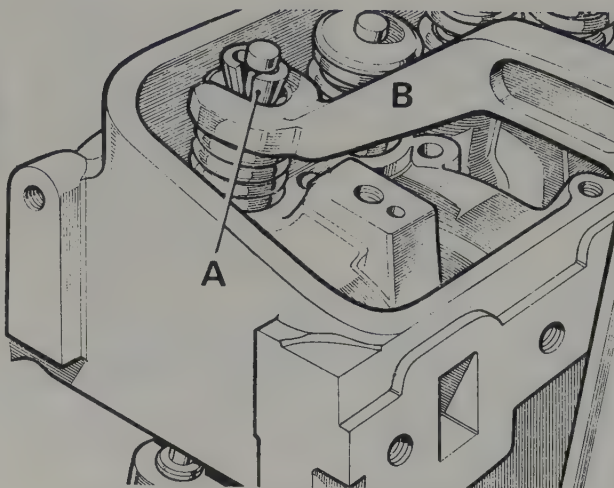

Fig. 1.20. Compressing a valve spring
- 1 Though it is recommended that the service tool spring compressor is used many standard universal valve lifting tools will do the job adequately. (Fig. 1.20 and 1.21).